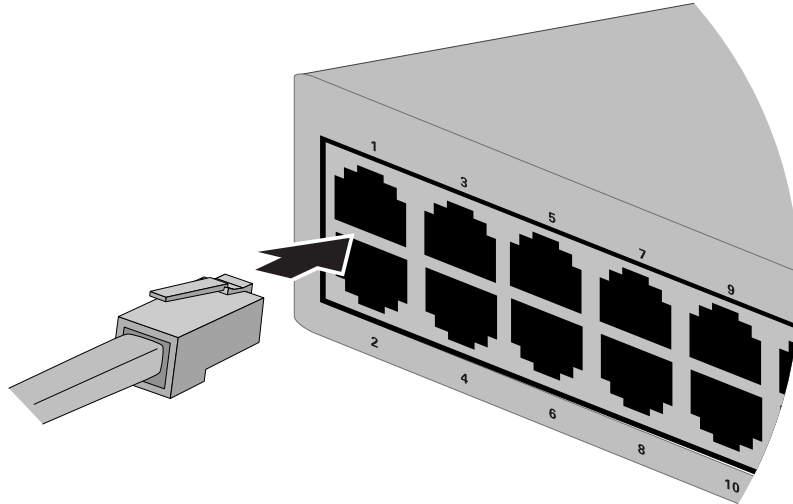

Figure 30. Connecting the Twisted Pair Data Cables
1. If your AT-8000 Series Switch has twisted pair ports, connect the twisted pair data cables to the RJ-45 ports on the switch, as shown in Figure 30.